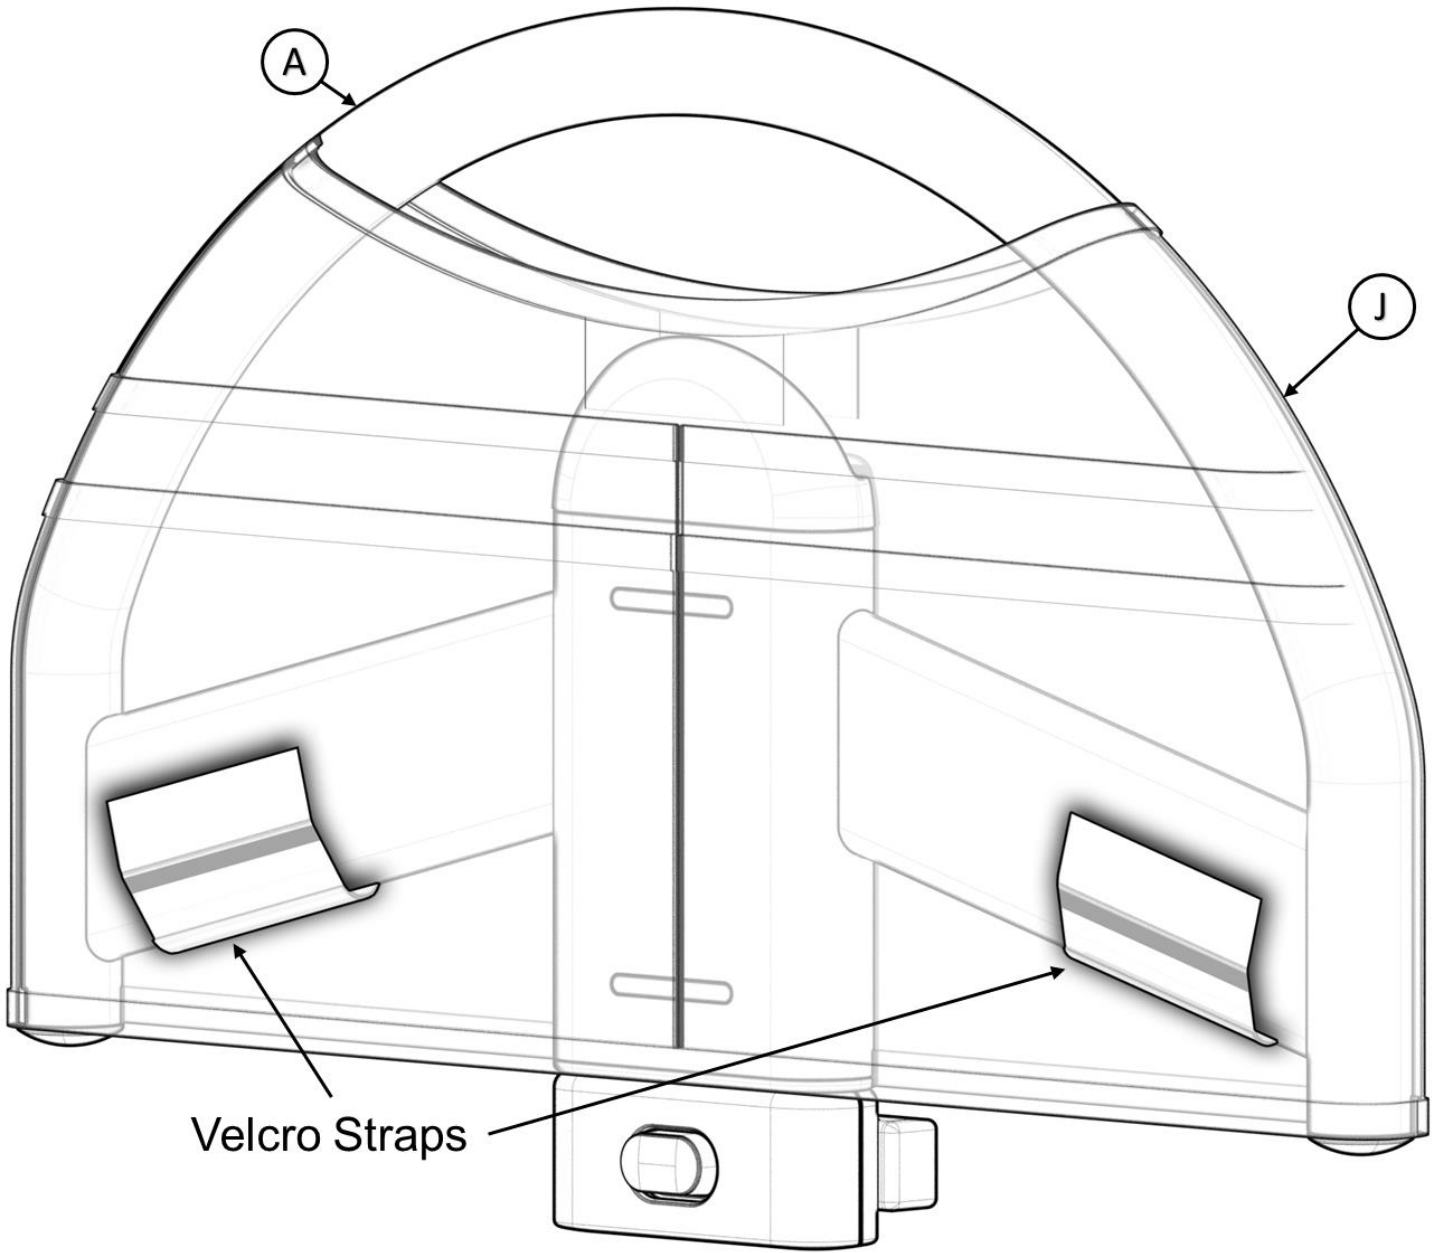

FIGURE 6
6. Secure **Velcro Straps** inside Pouch (**J**) to **A** as shown in *FIGURE 6*. **Note:** **Velcro Straps** are located inside Pouch.